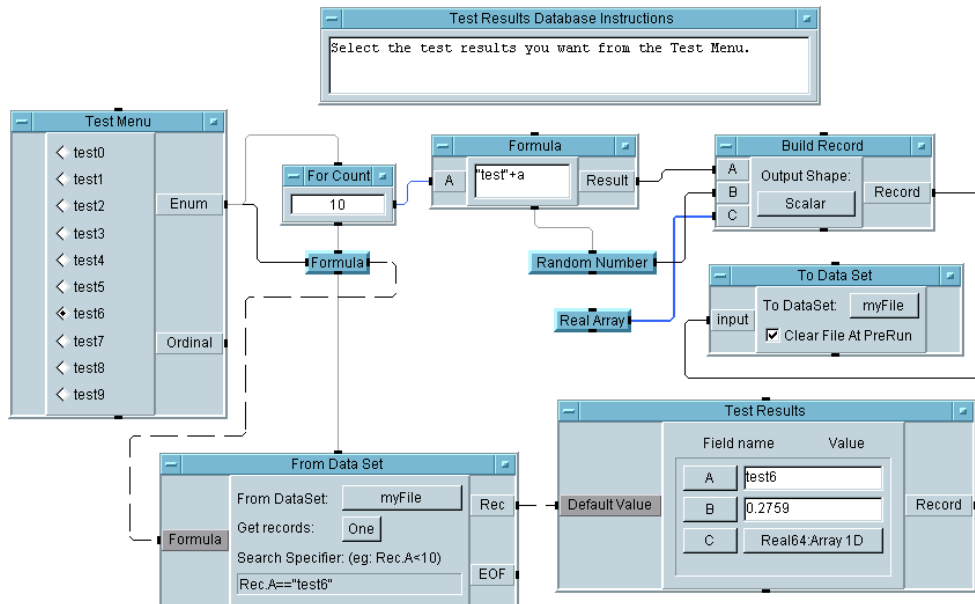

Figure 5-18. Adding a Menu to the Search Operation
13. The program should look like Figure 5-18. Run the program a few times to verify that it works. Since the `Test Menu` object has `AutoExecute` turned on, make a menu selection to run the program.